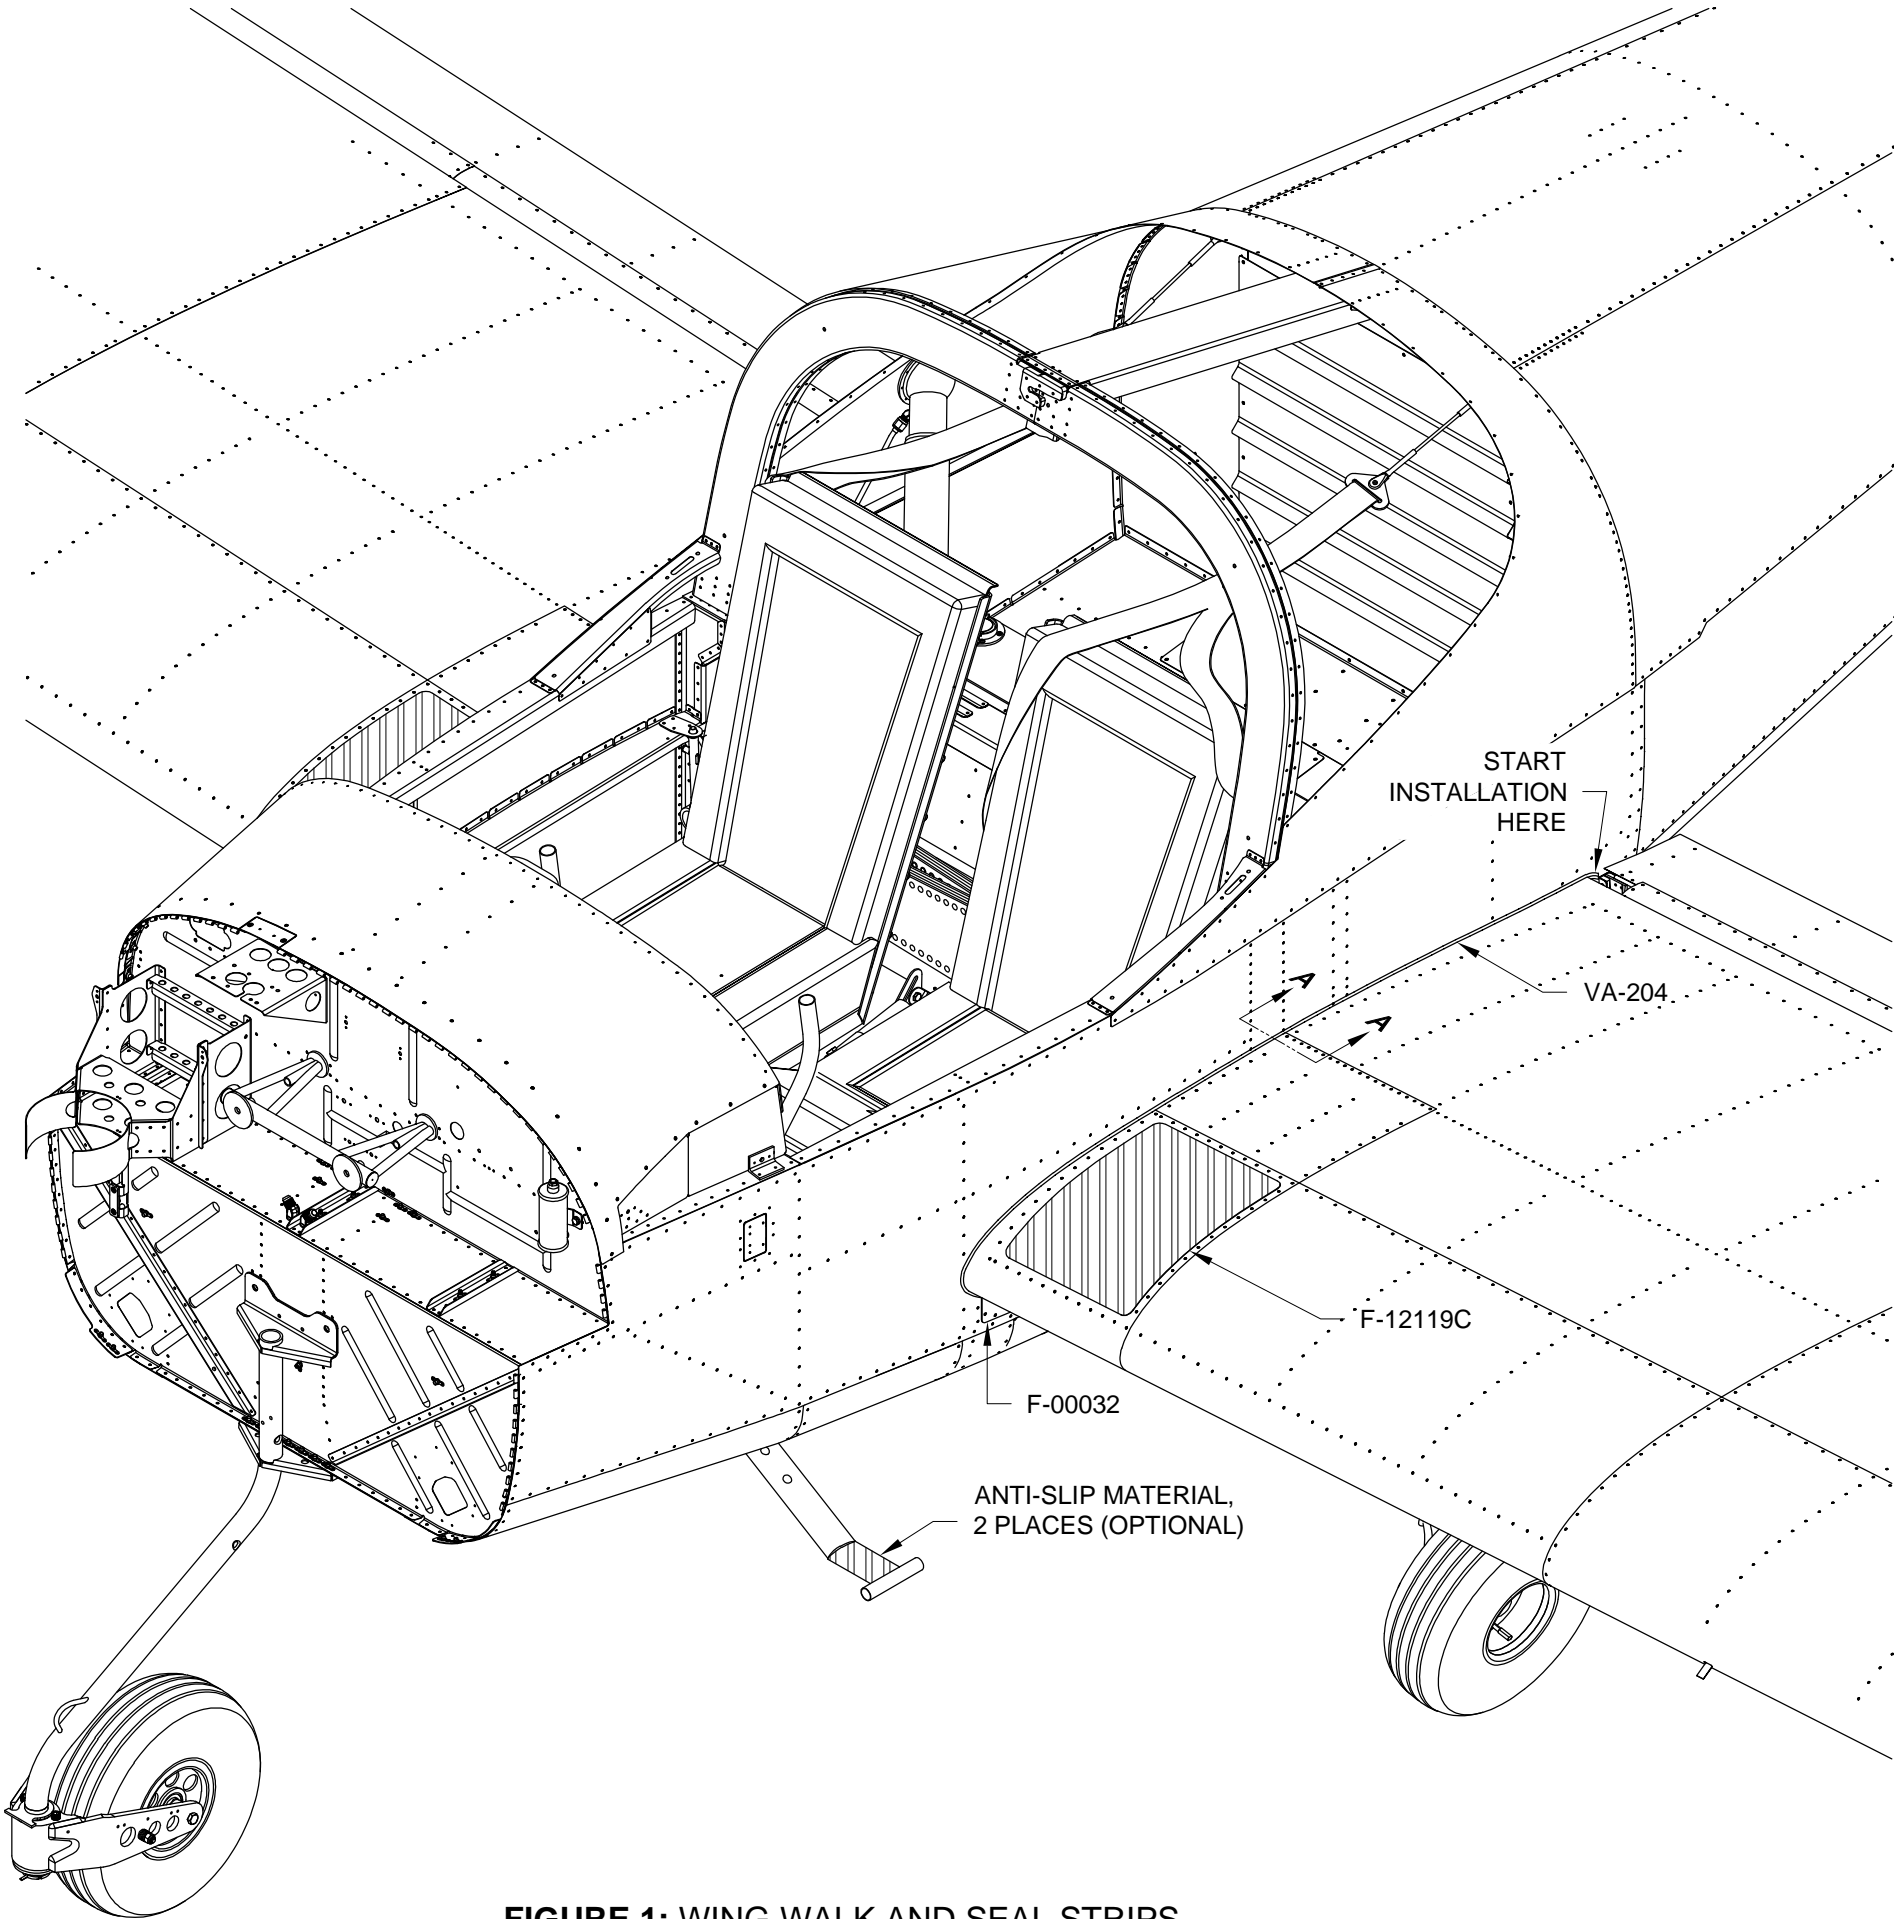

FIGURE 1: WING WALK AND SEAL STRIPS
Step 7: Apply the F-12119C Wing Walk to both wing surfaces as shown in Figure 1.
Step 8: Apply anti-slip material (approximately 2 inches X 3 inches is needed) to the steps as shown in Figure 1.
NOTE: The oval hole in the F-1282-L Bottom Left Skin provides access to the fuel drain for RV-12iS installations and to the gascolator for RV-12 ULS installations. The template for the hole is found on Page 38iS/U-25, Figure 3. Use the call-outs in Figure 1 and on the template to complete the steps on this page.